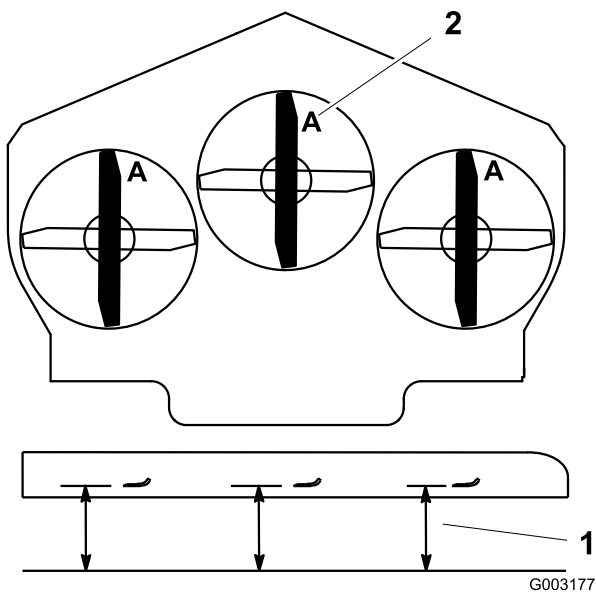

Figure 76
3. Rotate the blades until the ends face forward and backward (Figure 76). Measure from a level surface to the cutting edge, position A, of the blades (Figure 76). Note this dimension.